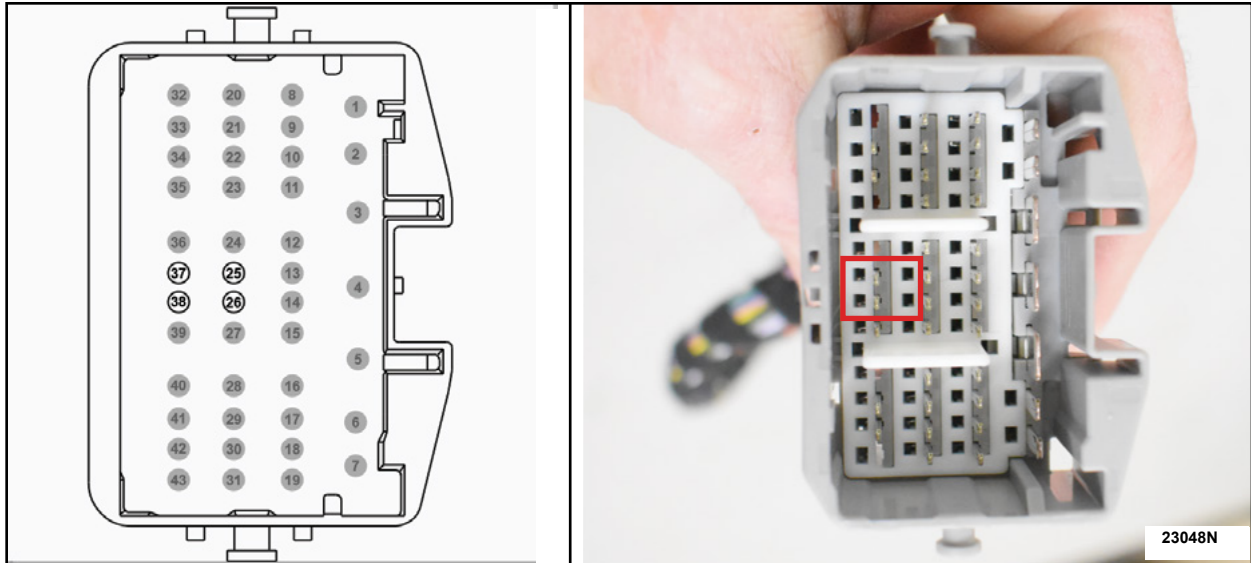

FIGURE 2
3. Locate pin terminal numbers 25, 26, 37 and 38 from within the auxiliary climate control upfitter harness connector as shown in Figures 2 and 3.